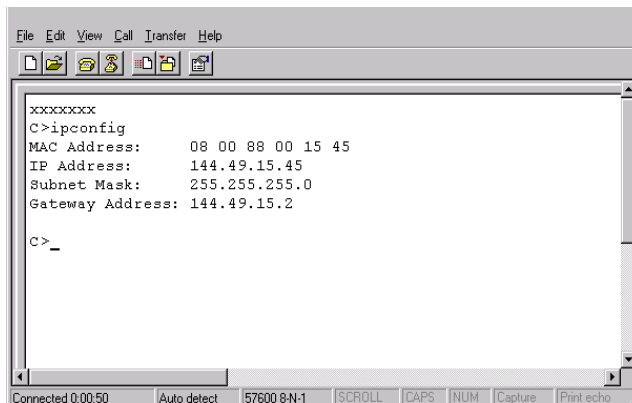

Figure 2-7 HyperTerminal Dialog Box
10. At the **C>** prompt, type **ipconfig** and press **Enter**. The *Intrepid 6064 - HyperTerminal* dialog box (Figure 2-7) displays with configuration information listed.